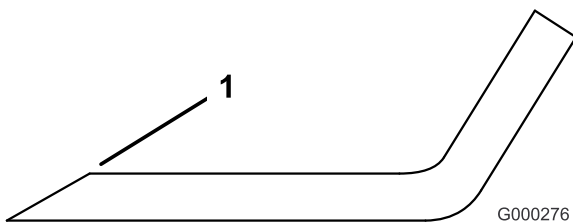

Figure 93
1. Use a file to sharpen the cutting edge at both ends of the blade (Figure 93). Maintain the original angle. The blade retains its balance if the same amount of material is removed from both cutting edges.